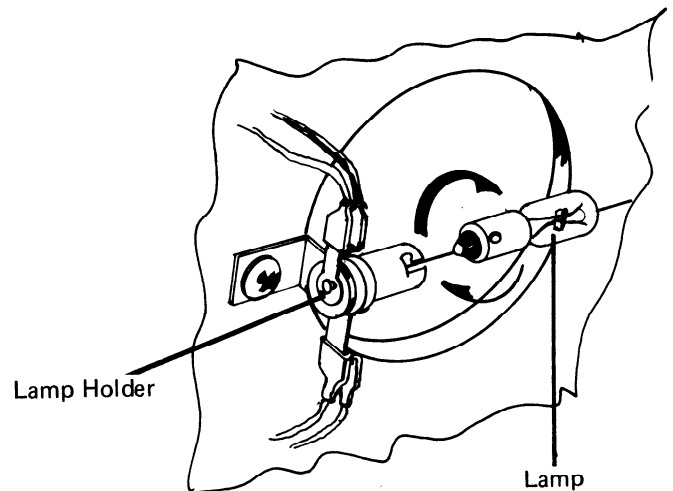

FIGURE 13
13. If lamp is located in the upper cabinet P.C. board support panel, refer to Figure 13.